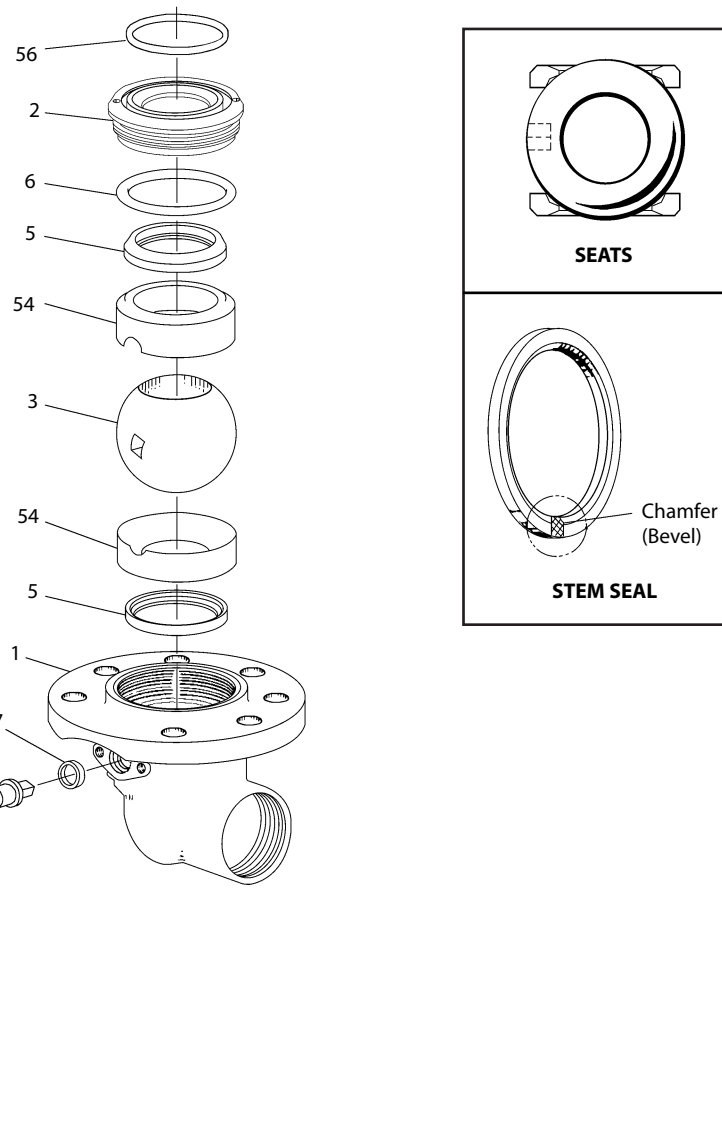

Figure 2
1. Slide the first valve seat (5) into the body (1) to below the stem opening, and tilt it into place so that the proper surface (**see picture in Figure 2**) will be adjacent to the ball (3).
2. Fit one half of the PTFE liner (54) into the valve body aligning the slot in the liner with the stem hole in the valve body.
3. Insert one stem seal (7) into the stem hole with the chamfer on the I.D. facing down.
4. Place the ball (3) into the valve in the open position, and adjust so that the slot faces the stem opening. Lubricate the stem (4) with a compatible lubricant and insert it. The stem should be tapped into place gently to avoid cutting the PTFE of the stem seal.
6. Position the body seal (6) against the chamfer of the PTFE liner. The chamfer on the I.D. of the body seal should be facing out.
7. Fit the second seat (5) into the machined area of the body cap (2). (**see Figure 2 for proper placement of seat.**)
9. Slide the second stem seal (7), compression ring (18) and bonnet plate (9) over the stem. The chamfer on the I.D. of this stem seal should also be facing down.
10. Tighten the bonnet plate (9) down with the socket head cap screws (11). Tighten the screws until they make contact with bonnet plate; then tighten another 3/4 of a turn each.
11. Drop the indicator stop (12) and stem cup (55) over the stem and secure them with the retaining ring (14).
12. Place the handle (15) on the valve stem and rotate the ball slowly with a gentle back and forth motion to build gradually to the full quarter turn. By rotating slowly, the seat lips will flow into place to maintain a permanent seal against the ball. A quick turning motion at this point may cut the seats before they have a chance to flow into place.